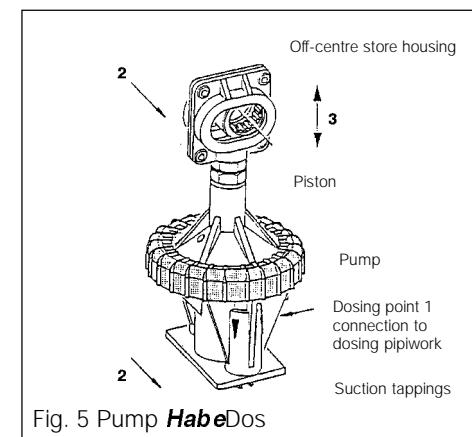

Fig. 5 Pump **HabeDos**
- Take the pump out (Fig 5).
- Operate the pump several times by hand until fluid comes out of the dosing hose (Fig. 5).